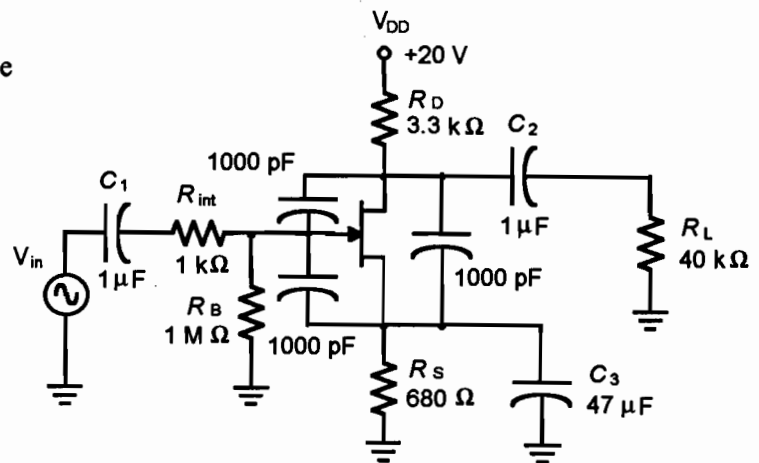

Figure 41.2
1. For this portion of your troubleshooting, you will simulate an incorrect JFET transistor. Place three 1000-pF capacitors in your circuit, bypassing the JFET, as shown in Figure 41.2.